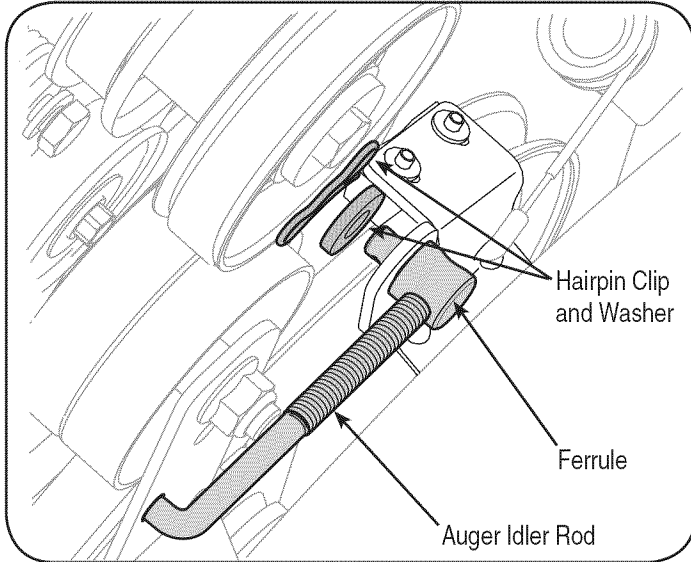

Figure 29
1. Remove the bow-tie clip and flat washer from the ferrule in order to disconnect the auger idler rod from the brake bracket assembly. See Figure 29.